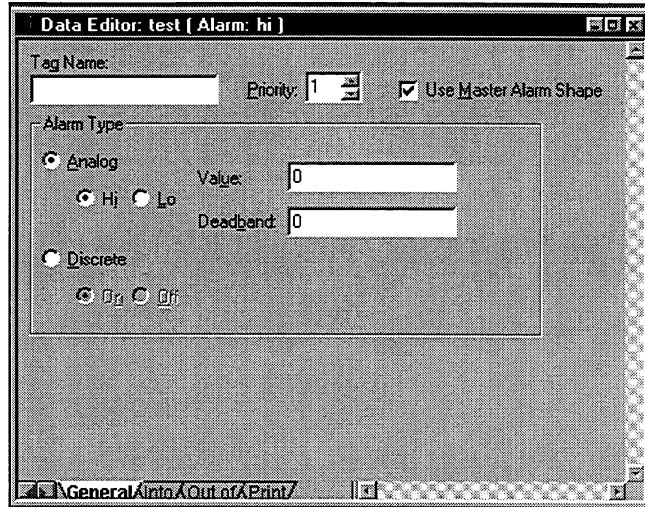

Figure 10-3. Alarm Editor Form
5. Press ENTER to open the Alarm Editor form, shown in Figure 10-3.